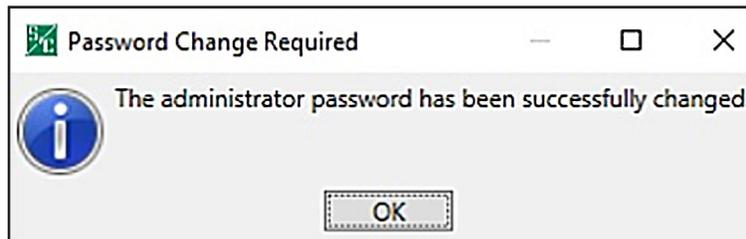

Figure 48. Password Change Required dialog box showing the administrator password successfully changed.
STEP 3. When the password is changed successfully, the Successfully Changed dialog box opens. See Figure 48. Click on the **OK** button to finish the change-password process. If the password was not changed successfully, go to Step 4.